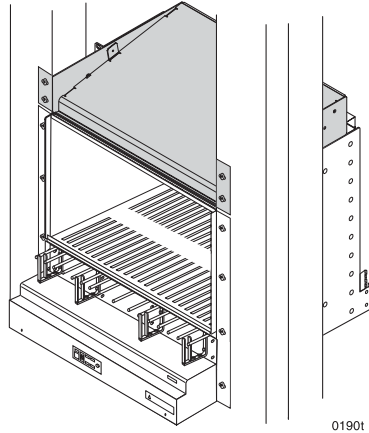

Figure 4 Positioning an Air Ramp
2. Position an air ramp just above or resting directly on the SmartEdge 800 chassis so that the screw holes in the air ramp mounting brackets are aligned with the screw holes in the rack just above the chassis; see Figure 4.